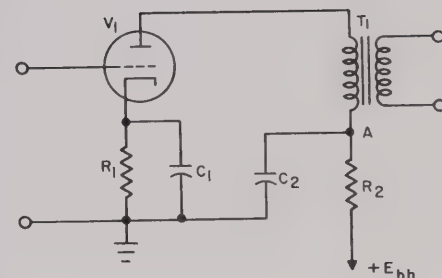

Figure 21
One method for preventing feedback through the power supply is called **DECOUPLING**. A typical arrangement of a low-pass RC network is shown in Figure 21. Generally, the time constant is long at the lowest signal frequency. Resistor R_2 is connected in series with the $+E_{bb}$ lead, and the capacitor, C_2 , is connected from point A to ground.
When the plate current decreases, capacitor C_2 charges, and the charging current tends to maintain the total current constant in R_2 . When the plate current increases, part of it is supplied by the discharge of C_2 , and again the change in the total R_2 current is reduced. Thus, the charge and discharge currents tend to maintain a constant current in R_2 , and therefore, a constant potential at point A. Because it removes the ac component of the plate current from resistor R_2 , C_2 is sometimes called a bypass capacitor. Do not confuse this term with the name given to C_1 , the cathode bypass capacitor. There are two current paths in the circuit of Figure 21. There is a dc path from ground through R_1 , tube V_1 , the primary of transformer T_1 , and R_2 to $+E_{bb}$. As the ac component is generated in the tube, its path can be traced from ground through C_1 , tube V_1 and the primary of T_1 , and through C_2 , back to ground.
55. R_2 and C_2 , shown in Figure 21, serve as a _____-pass filter.